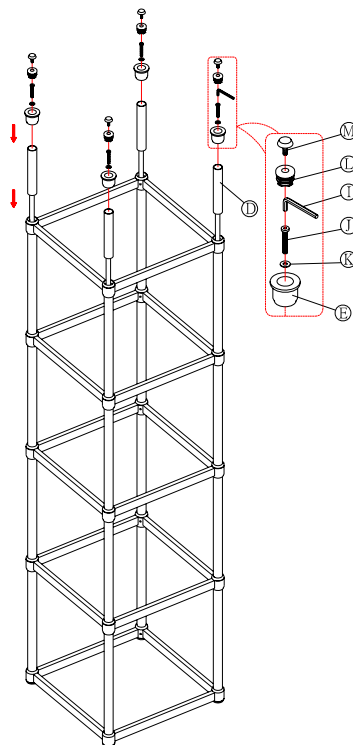

Fig. 3
- Put the short metal tubes (D) to the metal rods on the end of the frame. Secure the metal feet (E) to the legs using the bolts (J) and the flat washers (K). Tighten with the enclosed Allen key (I).
- Plug the plastic caps (L) into the end of the feet. Screw the adjustable levelers (M) into the plastic caps as shown (Fig. 3).